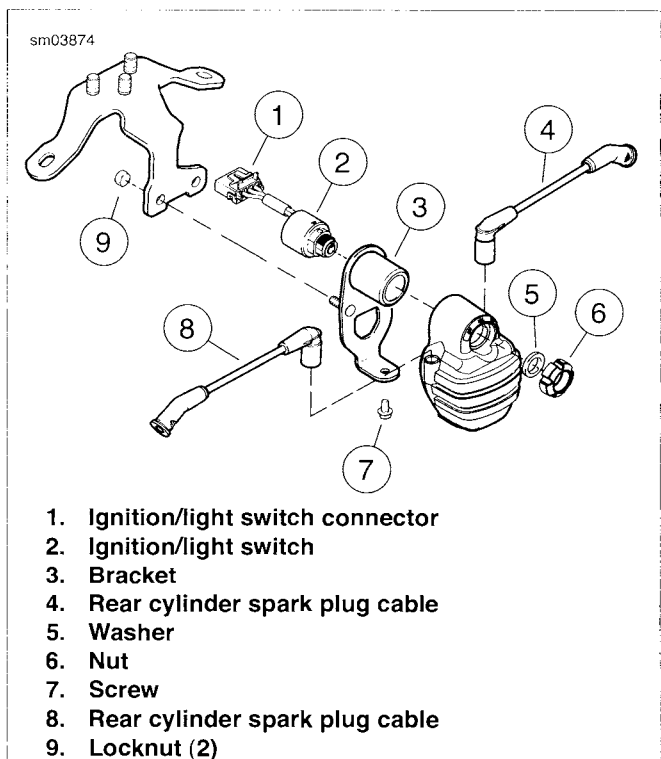

Figure 7-18. Ignition/Light Switch: FXCWC Only
3. See Figure 7-18. Remove screw (7).
4. Remove nut (6) and washer (5). Slide ignition coil out of the way.
5. Remove locknuts (9) and slide bracket (3) away from ignition/light switch (2).
11. See Figure 7-18. Slide bracket (3) over ignition/light switch (2) and install locknuts (9). Tighten locknuts to 12-15 ft-lbs (16.3-20.4 Nm)
12. Place ignition coil into position and install washer (5) and nut (6). Tighten nut to 115-135 in-lbs (13.0-15.3 Nm).
13. Install screw (7).